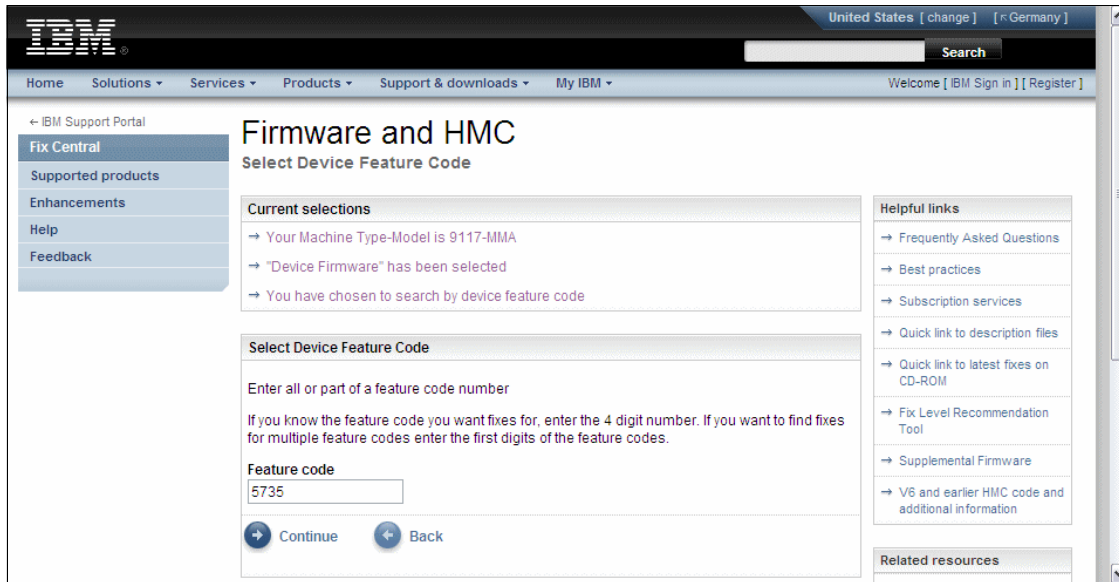

Figure 11-17 IBM Fix Central website: Select device feature code
7. Enter the adapter's feature code and click **Continue** as shown in Figure 11-17.